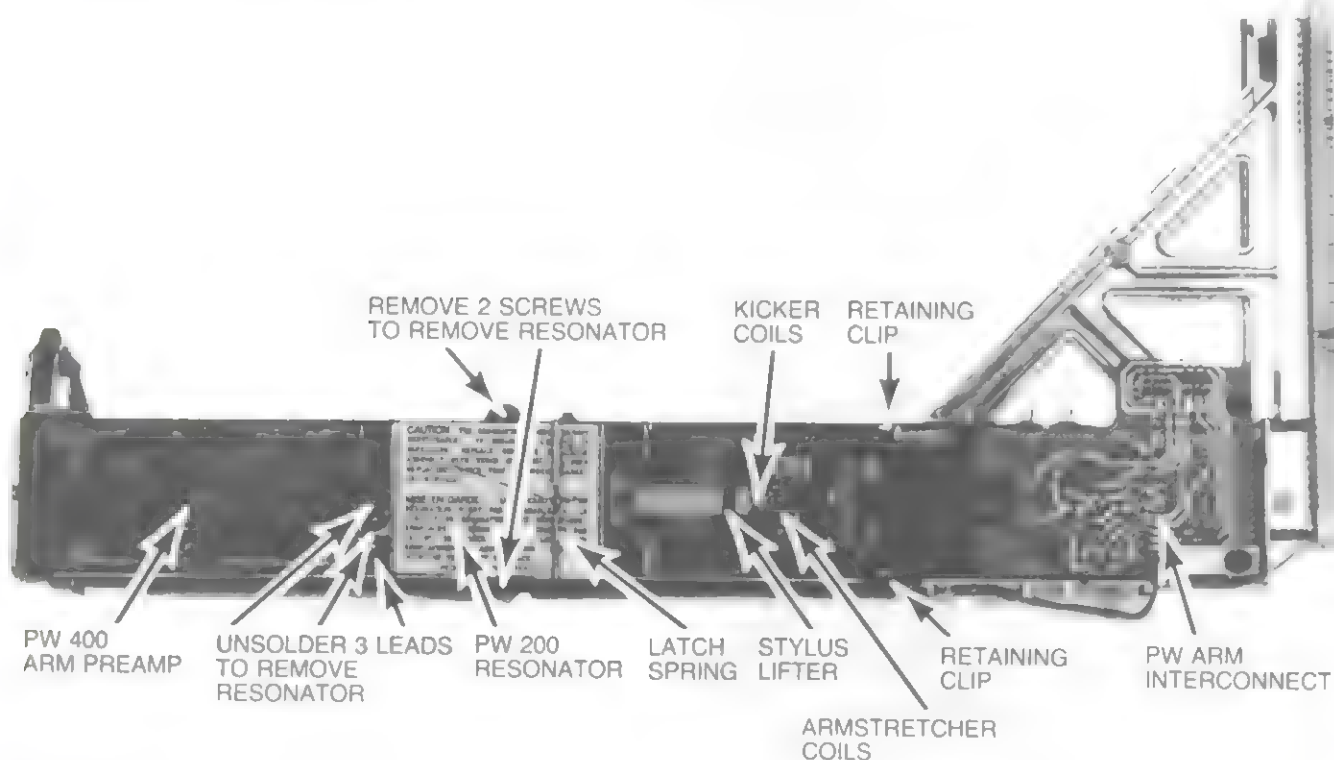

Fig. 21—Arm Assembly
2. Remove two (2) pozi-drive (+ head) screws holding resonator captive and remove stylus cover latch spring (Fig. 21).
3. Unsolder three (3) wires connected to feed-thru studs on resonator.
2. Remove two (2) lifter pivot retaining clips—one (1) each side of arm assembly (Fig. 21).